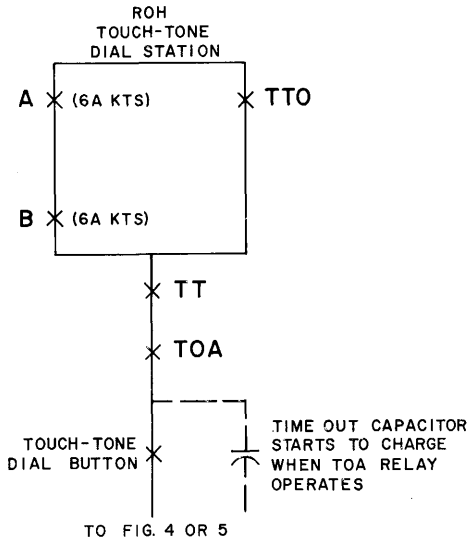

Fig. 3 — 6A KTS, Line Seizure
4.05 Sequence charts are furnished in Fig. 3, 4, 5, and 6. For more detailed information, refer to CD- and SD-69447.